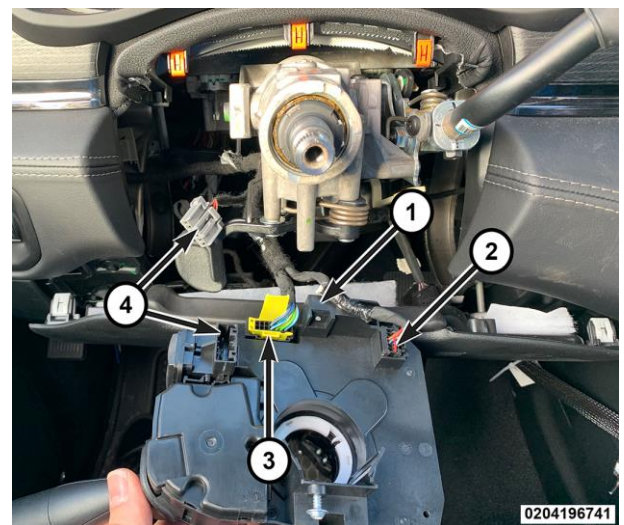

Figure 29 – SCCM
24. Pull the SCCM slightly away from the steering column and disconnect the pedal adjustment wire harness connector (4), if equipped (Figure 29).
26. Disengage the wire harness routing clip (1) (Figure 29).
27. Disconnect the wire harness connectors (2 & 3) (Figure 29).
1. Connect the wire harness connectors (2 & 3) (Figure 29).
2. Secure the wire harness routing clip (1) (Figure 29).